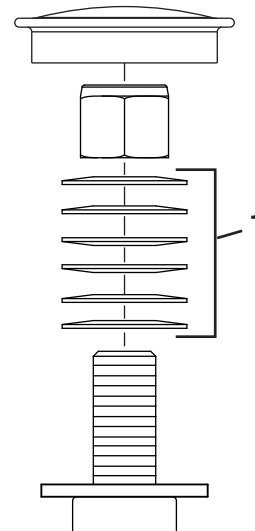

Figure 54
3. Remove the dust cap from the caster and tighten the locknut (Figure 54).
4. Tighten the locknut until the spring washers are flat, and then back off a 1/4 turn to properly set the preload on the bearings (Figure 54).
Important: Make sure that the spring washers are installed correctly as shown in Figure 54.
5. Install the dust cap (Figure 54).